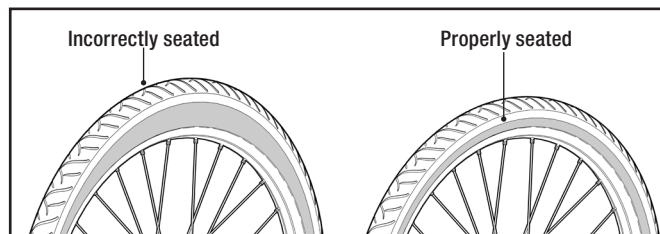

Figure 33
**⚠ WARNING:** Be sure to check that the edge (bead) of both tires are evenly seated the entire way around on both sides of the tire. Failure to do so may result in the tire coming off of the rim, the tube popping (see Figure 33), and a loss of control of the bicycle, causing injury or even death.